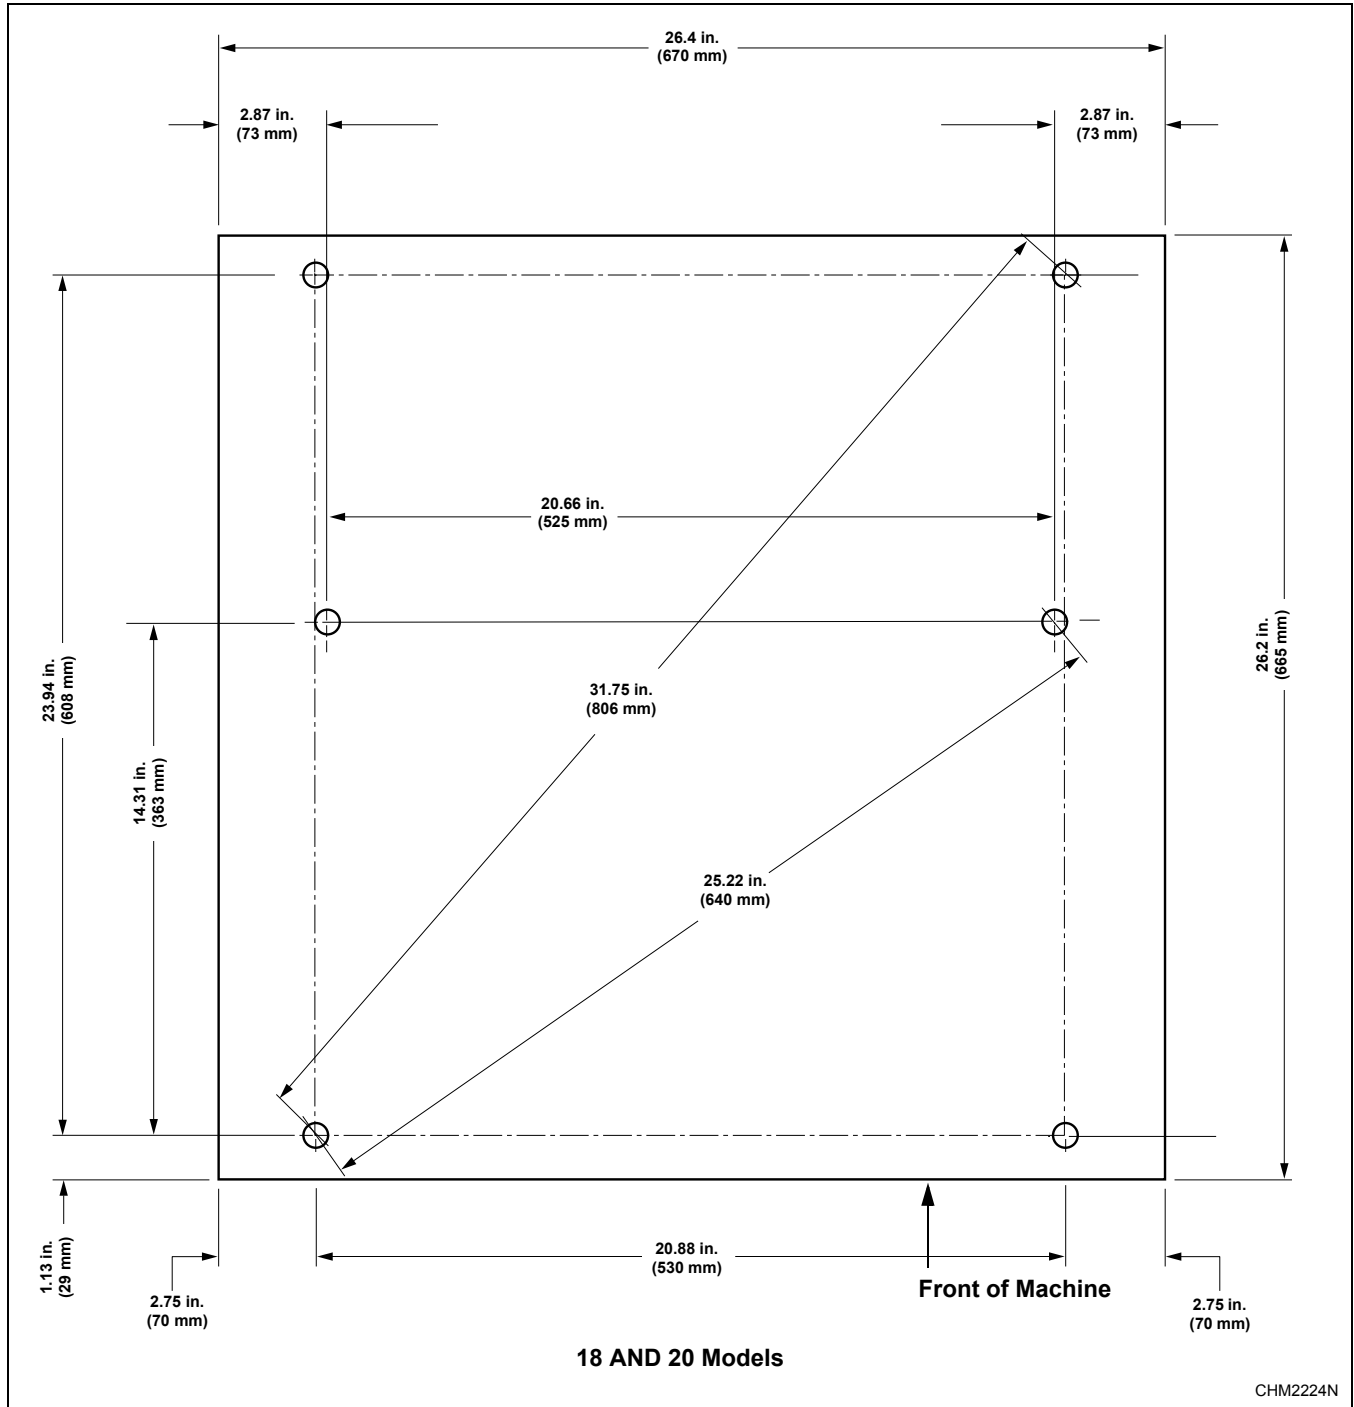
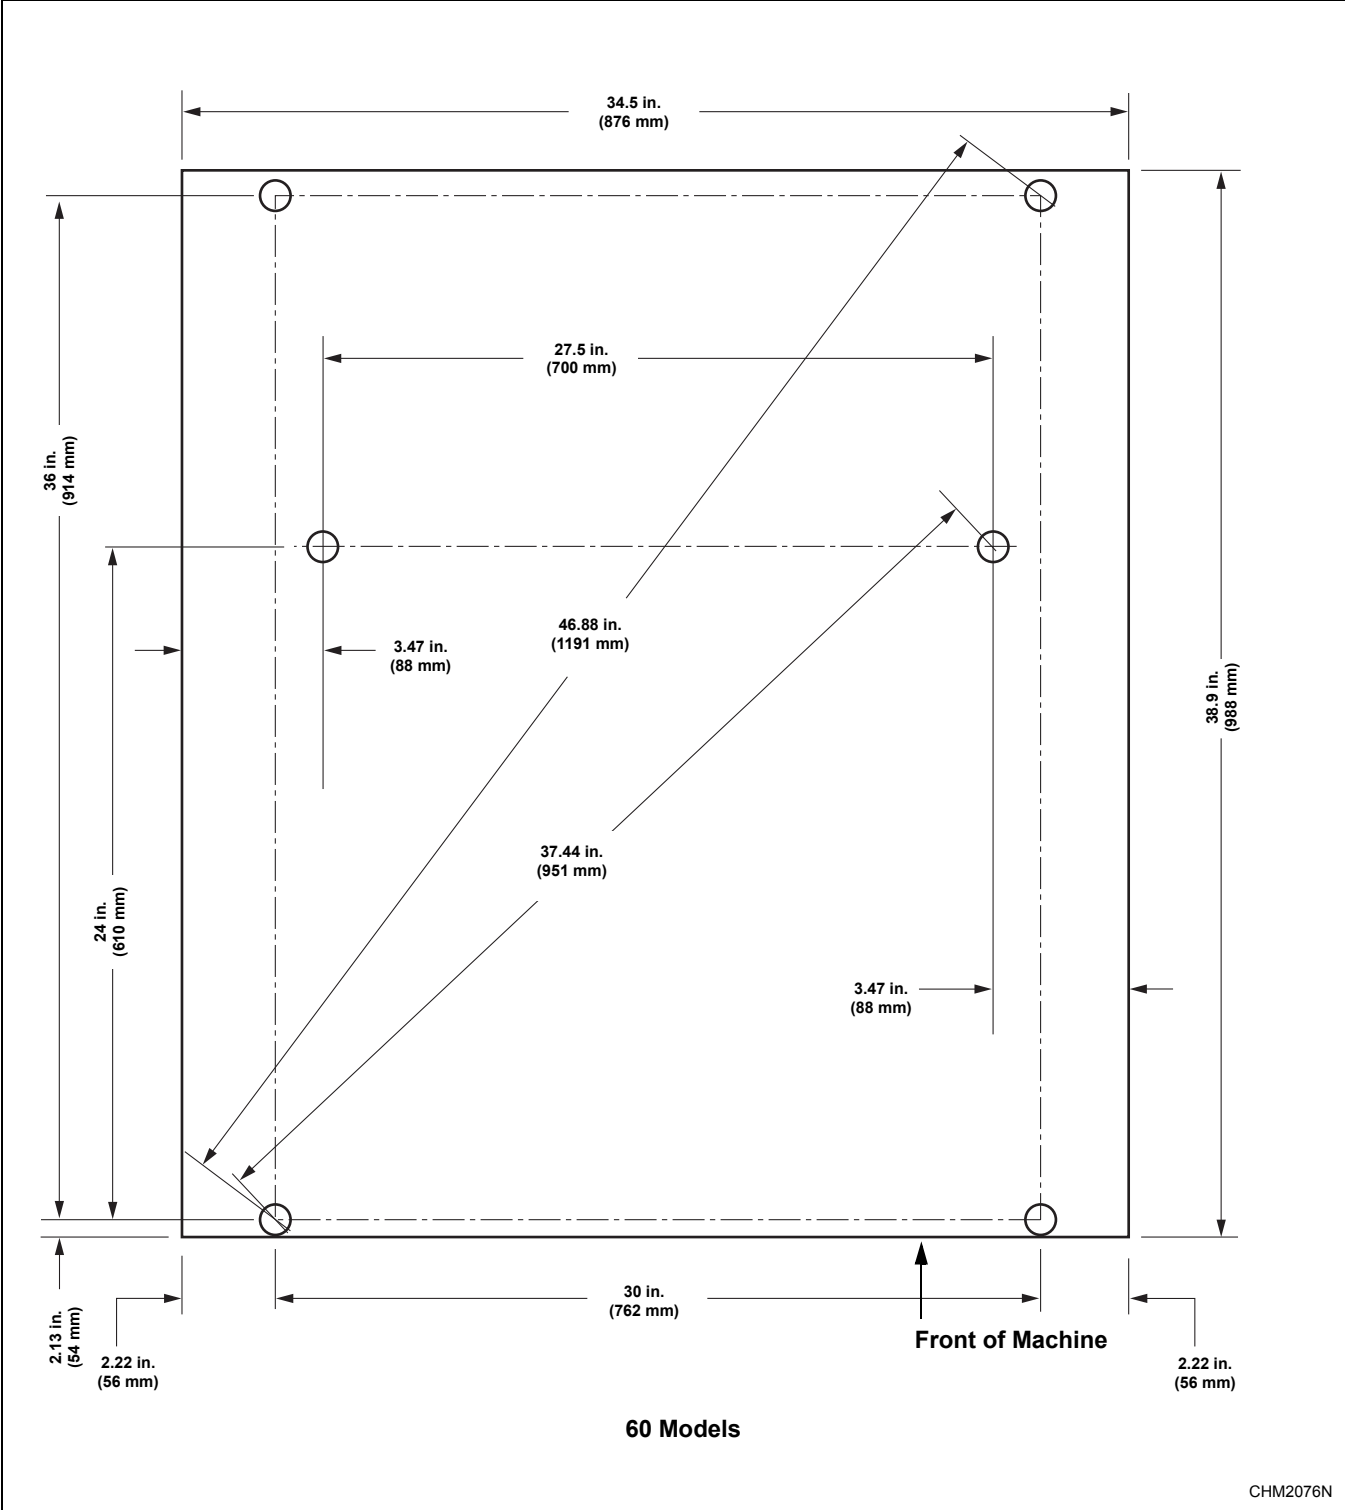

Figure 15
Figure 30
2. Install J-bolts in concrete as shown in the mounting bolt layouts (*Figure 15* through *Figure 30*) following these instructions.